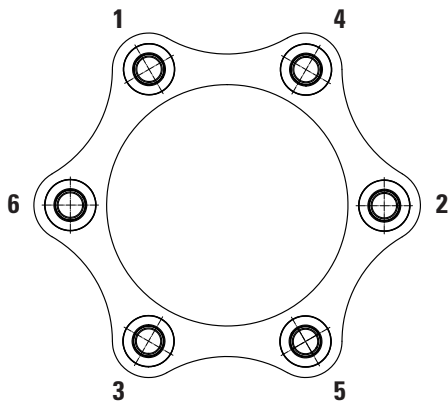

Figure 12
- 7.11 In the event the coupling utilizes a scalloped version center member you will need to pre assemble the disc packs to the center member before installing it between the mounted hubs as shown in Figure 12.